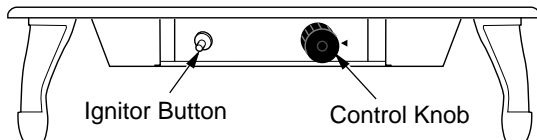

Figure 16 - Control Knob and Ignitor Button Location
4. Wait five (5) minutes to clear out any gas. Then smell for gas, including near the floor. If you smell gas, **STOP!** Follow "B" in the safety information, above. If you don't smell gas, go to the next step.
5. Turn control knob counterclockwise to the PILOT position. Press in control knob for five (5) seconds (see Figure 16, page 12).